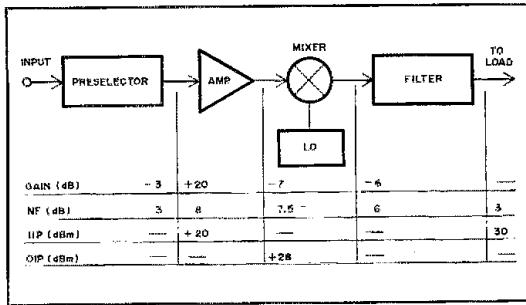

Fig. 6 — A design example. These data are entered into the computer. The corresponding results are given in Table 1.
The program shown in Table 1 is written for the Apple II computer with Applesoft. An example problem involving a four-stage circuit is given in Fig. 6 to demonstrate how the program works. Table 2 lists the program output for the example; the large output intercept point (OIP) for stage one (204) should be ignored. The load at the output is assumed to have a 3-dB noise figure and a 30-dBm input intercept point (IIP). (An output power of 30 dBm is assigned in line 190). Any stage that generates distortion is an active stage, even though it may not be active in the usual sense. A correlation factor, C (I) is assigned for each stage and is usually given a value of +1 for a worst-case analysis. The intercept point for each stage may be known either as an input or output intercept, and the program prompts the designer for this information.